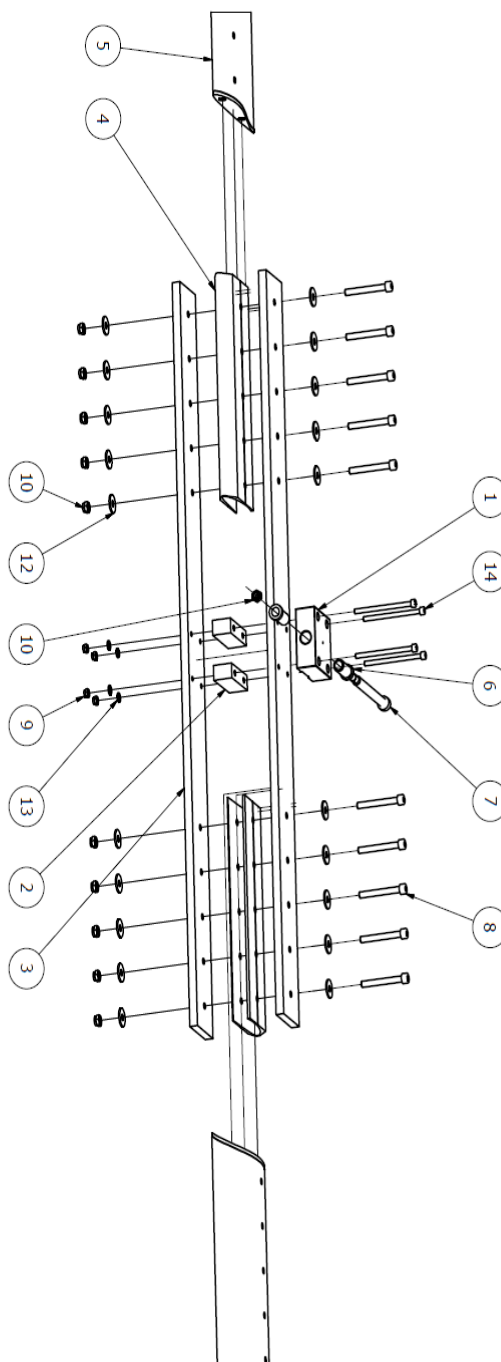

Figure 3.1.1 Assembly of the rotor hub (Note: After assembly, the rotor hub cannot be disassembled)
(Use WHS2000 to lubricate Mounting bolt – Item 7 from figure 3.1-1)
- Lubricate the mounting bolt (7, Figure 3.1-1) for rotor hub suspension on the rotor head and the slip sleeves with a dedicated lubricant (WHS2000).